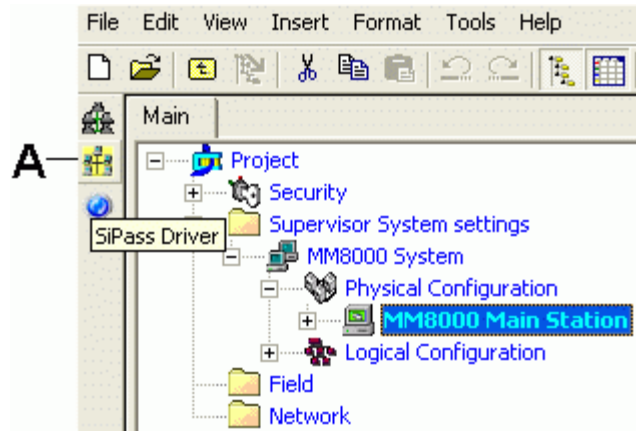

Fig 1 Adding the SiPass Driver (A)
The Fig 1 illustrates how to add the SiPass driver to the MM8000 configuration:
2. Click the button A to add the driver (see Fig 1).